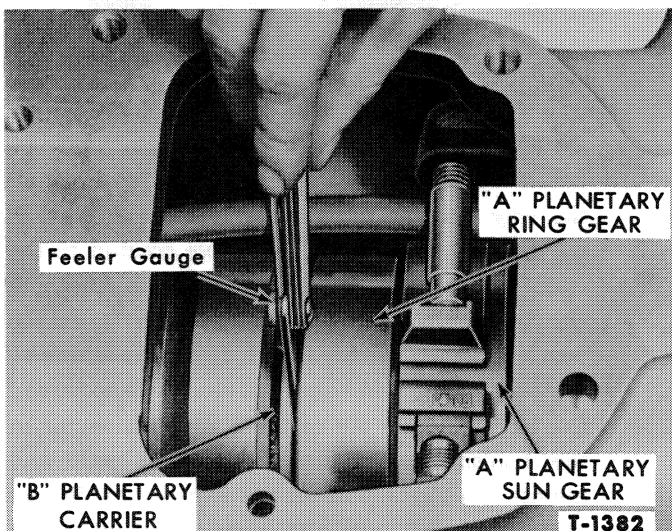

Figure 83—Checking Transmission Front End Play
1. Pry the planetary "A" ring gear toward the rear of the transmission with a screw driver and check clearance between the "A" ring gear and "B" carrier, as shown in Figure 83.
3. Record the difference between the two checks made with the gauge, shown in Figure 83 for reference during the transmission assembly. Front end play should be 0.005 to 0.015 inch.